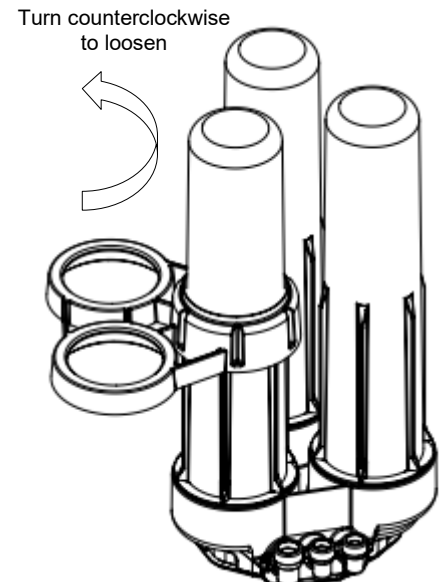

Figure 5
4. Remove the support leg from the three sumps and unscrew the top sump as shown (Figure 5) to access the pre-filter element. The support leg functions as a wrench to loosen/tighten the sump.